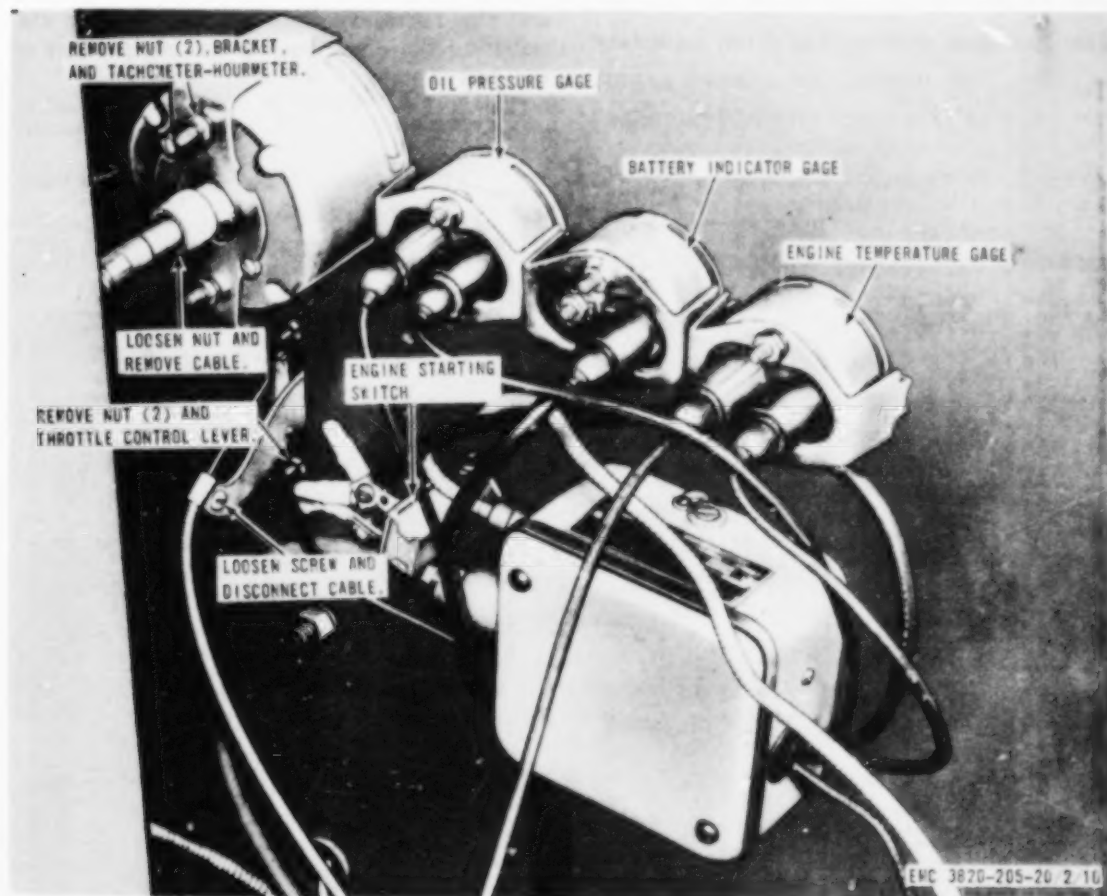

Figure 10. Instrument panel, rear view.
- (2) Remove the throttle control lever from the instrument panel as instructed on figure 10.
- (1) Install the throttle control lever on the instrument panel in reverse of the instructions on figure 10.